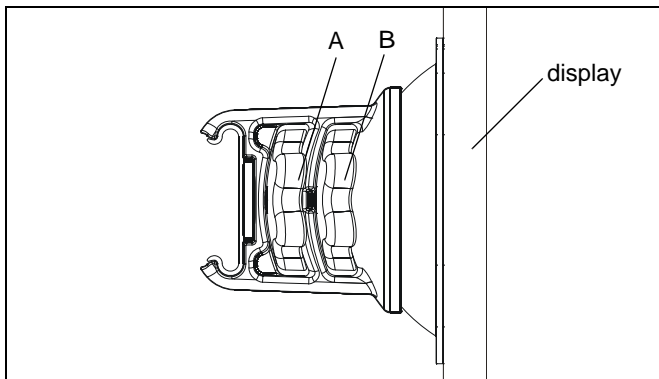

Figure 7
1. Using your fingers, slightly loosen adjustment knob "A" . (See Figure 7)
1. Using your fingers, slightly loosen adjustment knob "B". (See Figure 7)